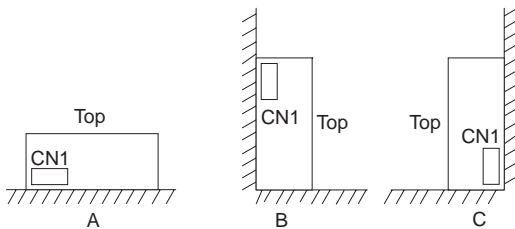

Fig.4.3 Installation method 1
■Fix firmly, considering weight, though it can be used by the installation method shown in Fig.4.3.